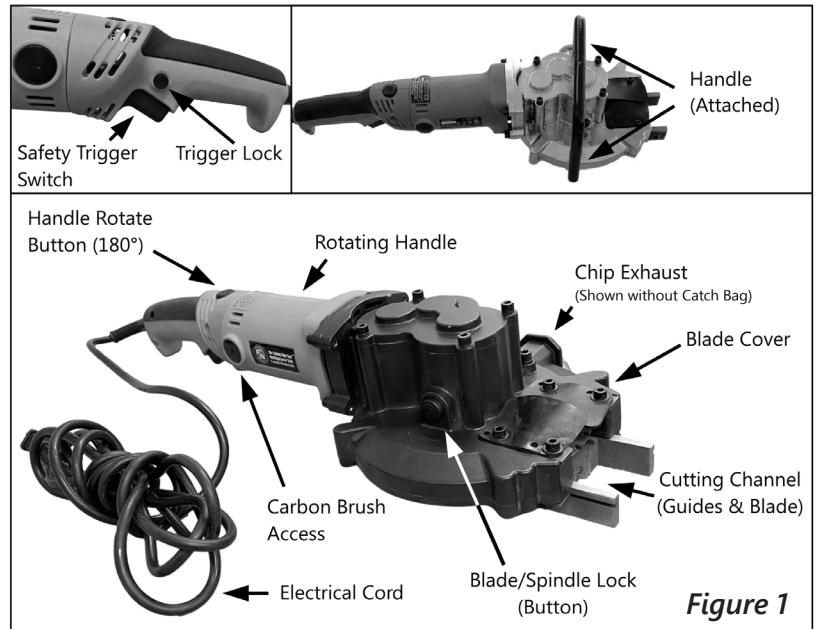

Figure 1
- To operate the trigger, depress the trigger lock button on the left side of the tool above the trigger; (See *Figure 1*) and then depress the trigger to start the saw.